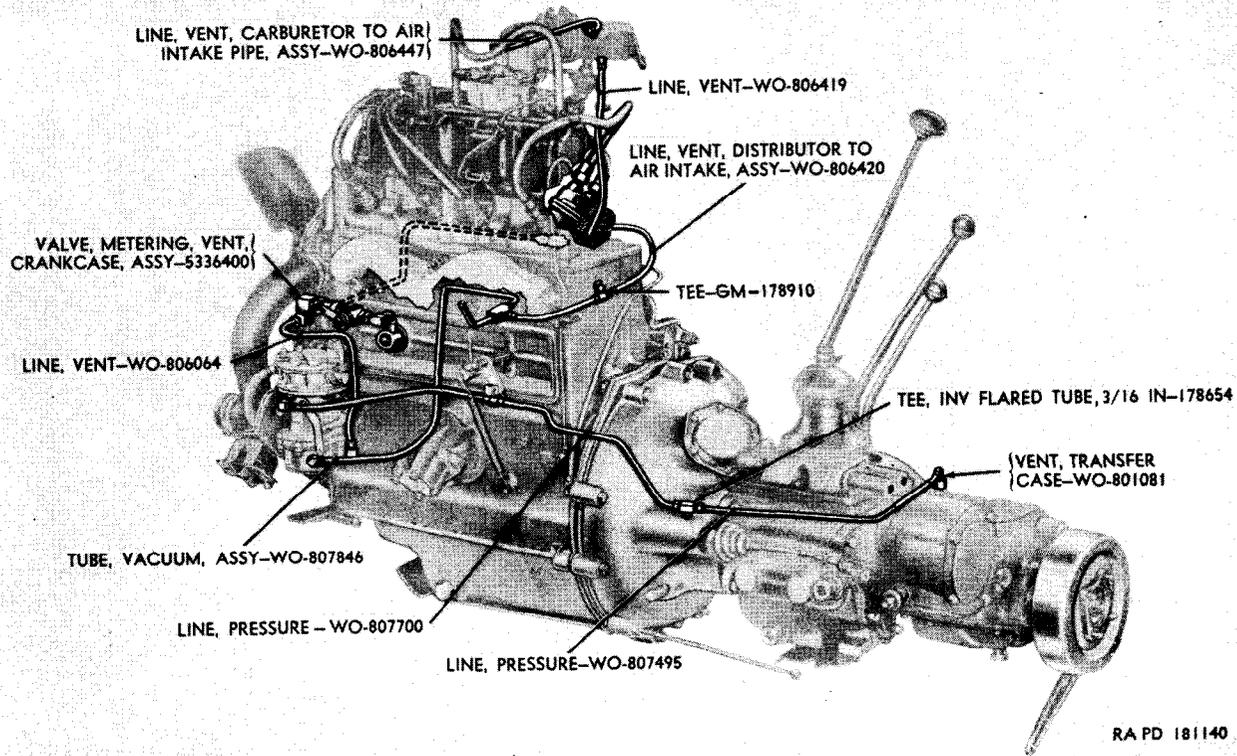

Figure 4. Underwater ventilating system.
a. General. The materiel covered in this publication comprises the power train, body, and frame of the $\frac{1}{4}$ -ton, 4 x 4 utility truck M38A1. This utility truck (figs. 1, 2, and 3) is a four-wheel vehicle with both a front and rear driving axle. Designed for use as a general purpose personnel or cargo carrier, the vehicle is readily adaptable for reconnaissance, communications or other special duties. It is capable of operating with the engine completely submerged in water. Underwater operation is possible because of waterproofed components and a design which utilizes the engine ventilating system as a pressure seal against entry of water past mating surfaces. Since a majority of the waterproofed assemblies require atmospheric pressure, either to operate or prevent condensation damage, a ventilating tube system (fig. 4) is used for this purpose.